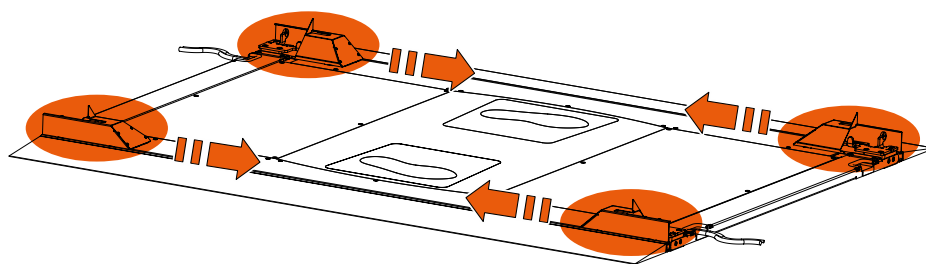

Figure 4-1: Removing the covers of the floor plate
3. Push the 4 covers of the floor plate inwards to remove them. Refer to Figure 4-1.
- Install the 4 covers to the floorplate. Refer to Figure 4-1.